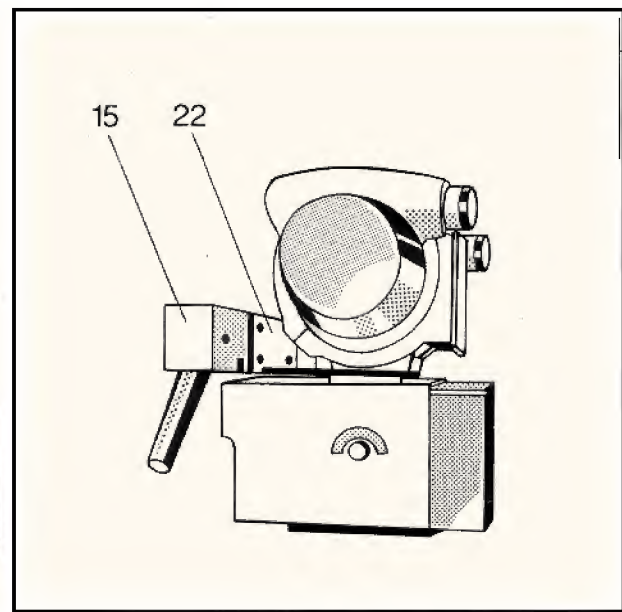

Fig. 11
Mount control handle (Fig. 11/item 15) with bracket (item 22) between X-ray tube and collimator.